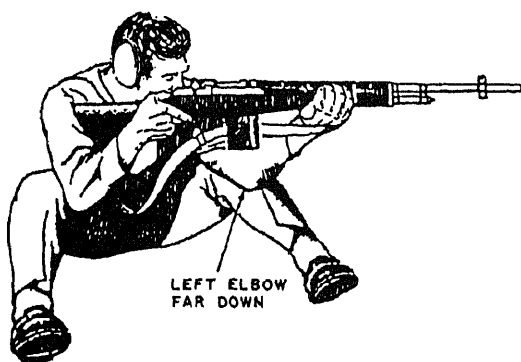

Figure 18-12.—Sitting position.
**Sitting.**—The sitting position (fig. 18-12) is useful when you are firing downhill or from places where you cannot see the target when prone (in high grass, for example).